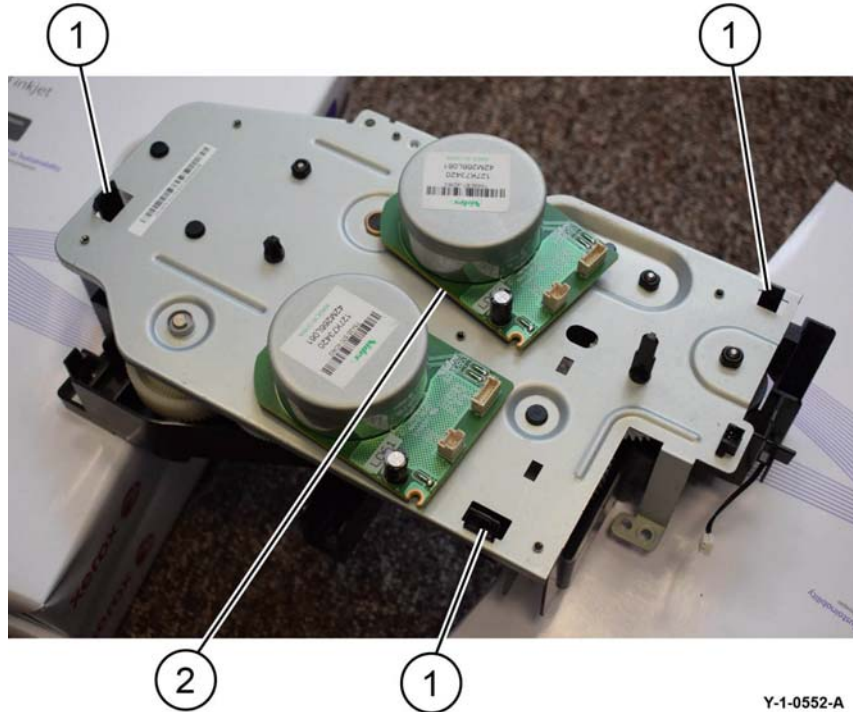

Figure 2 Clips
3. Place the drive assembly, metal drive plate face up, on four reams of paper (two stacks of two). Remove the metal drive plate, Figure 2:
- a. Release the three clips (1).
- b. Very carefully, lift off the metal drive plate (2).